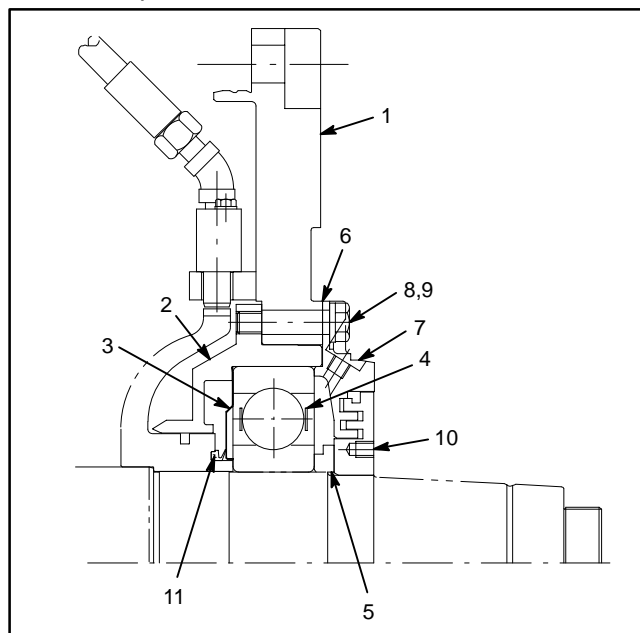

FIG. 12. CONNECTION-END BEARING DETAILS. E-43615.
**NOTE:** Numbers in parenthesis () refer to part numbers in Fig. 12 of this publication, unless otherwise noted.
1. Assemble the bearing puller (GE Tool 41D736059G3), and use the hydraulic jack to pull the connection-end bearing housing (2) and bearing (4) from the rotor shaft.
**NOTE:** Numbers in parenthesis () refer to part numbers in Figs. 12 and 21 of this publication, unless otherwise noted.
1. Inspect the rotor connection-end bearing housing (2) to ensure that both inside bores are clean and free of nicks and burrs.